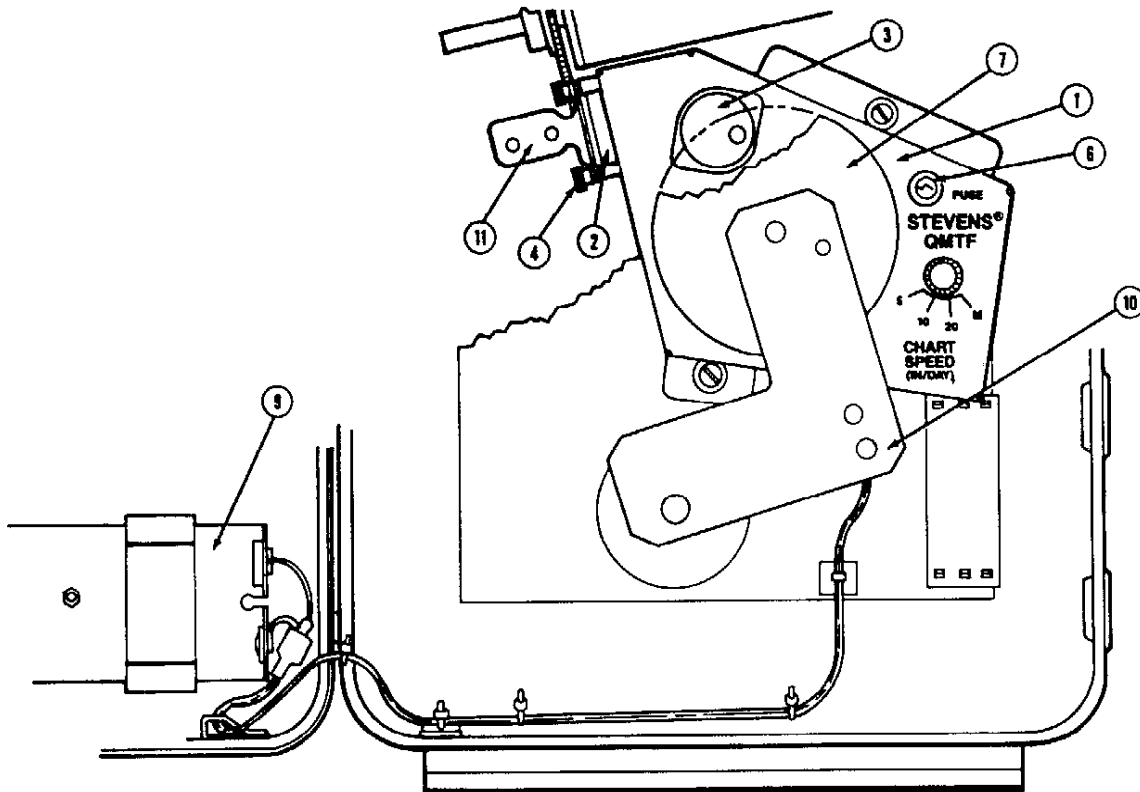

Figure 14. Quartz Drive Unit
(Figure 14).
7.2.8.2 Connect the chart drive wires to the battery holder. The connectors are polarized and can only be assembled one way. With the door in the open position, route the wires so that there is enough loop at the hinge point to allow the door to open and close freely but will not catch on the flow range cam. Secure the wires with the stick-on cable clamps as shown in Figure 14. Peel the paper liner off the backs of the cable clamps and stick in place.